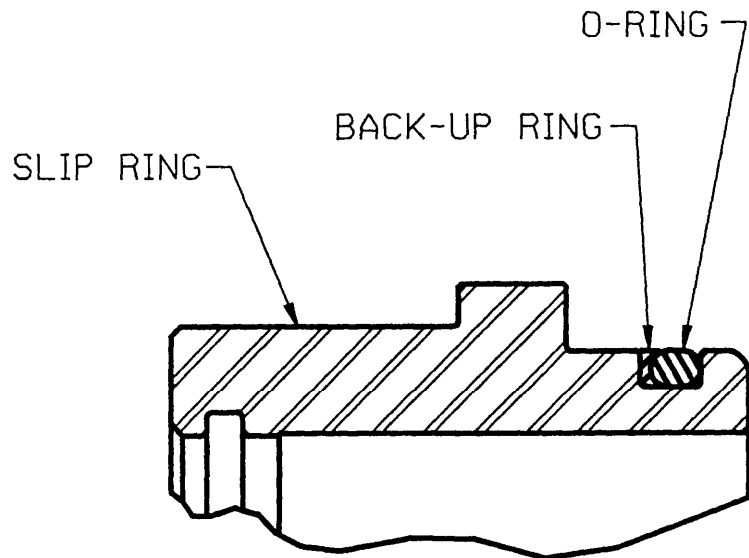

FIG 3
*IMPORTANT: On the slip ring, the back-up rings should be flat against the groove wall with the O-rings towards the shortest land area (Fig 3).